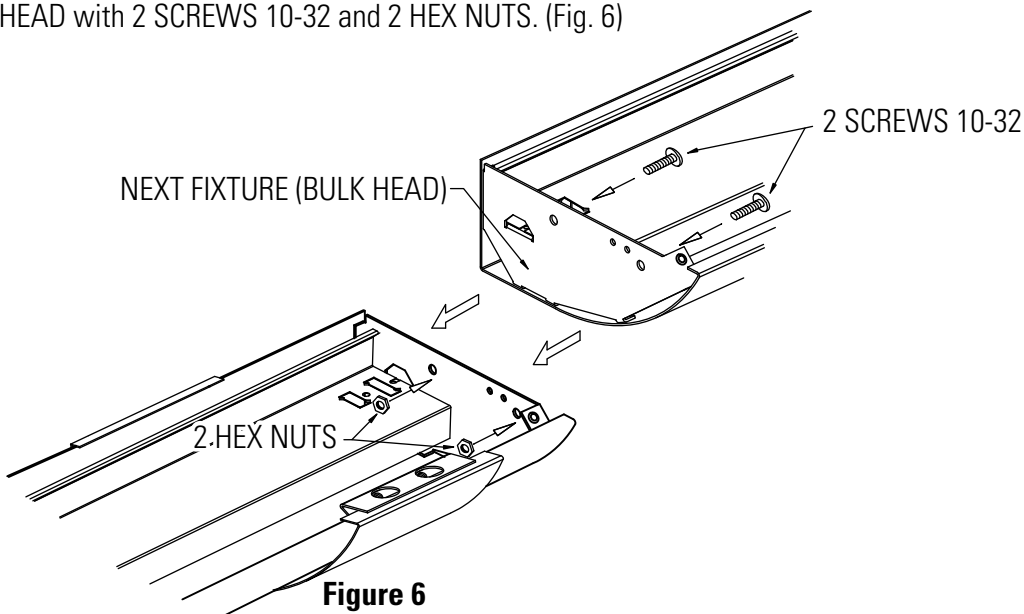

Figure 6
4. Join fixtures at BULK HEAD with 2 SCREWS 10-32 and 2 HEX NUTS. (Fig. 6)